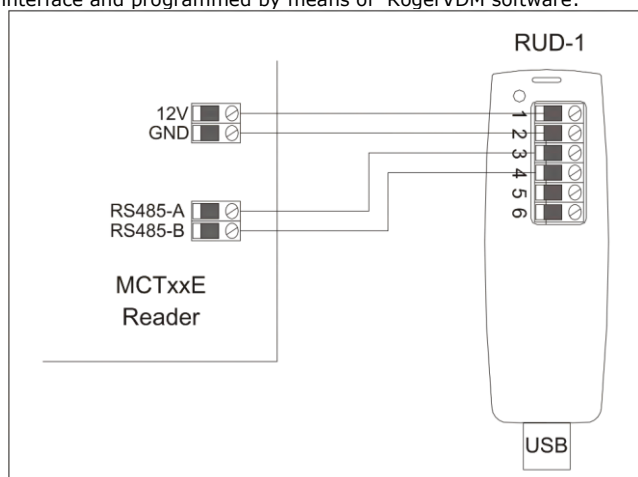

Fig. 1 Reader connection method to RUD-1 interface.
The reader is designed to operate within RACS 5 system as a slave unit connected to MC16 through RS485 bus. Factory new reader is addressed to ID=100 and the rest of settings are default. Before connecting to the controller reader requires a unique address. Programming of other parameters depends on the individual installation scenario requirements and is not obligatory. Addressing of the reader can be done from PC by means of RogerVDM program or manually through the Memory Reset procedure. Configuring of the reader by RogerVDM requires RUD-1 interface (Fig. 1).
1. Connect reader to RUD-1 interface according to Fig. 1 (screw terminals and wires description is in the Table 1).
Firmware can be upgraded by means of RogerISP software and RUD-1 communication interface (Fig. 1). The file with latest firmware is available at www.roger.pl
1. Connect reader to RUD-1 interface according to Fig. 1.